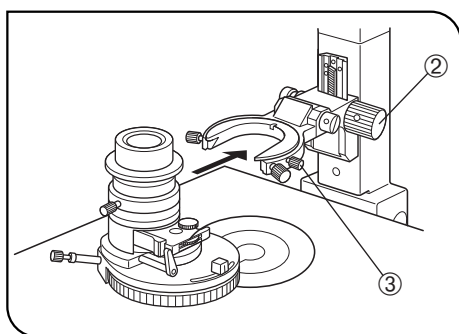

Fig. 95
1. Rotate the condenser height adjustment knob ② to raise the condenser to the upper limit position. (Fig. 95)
2. Loosen the condenser clamping knob ③. (Fig. 95)
4. Tighten the condenser clamping knob ③. (Fig. 95)